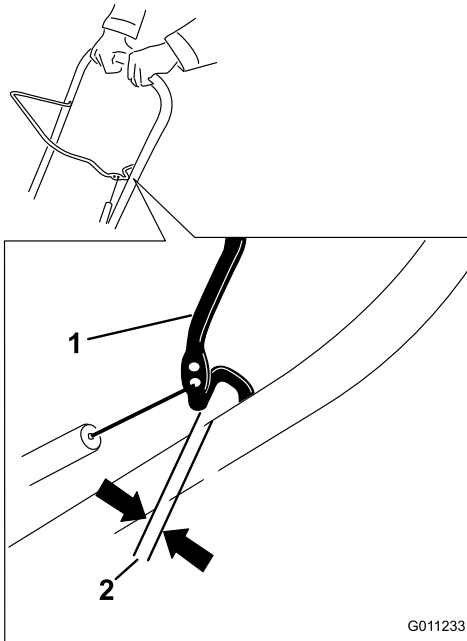

Figure 25
Move the control bar back toward the handle to remove the slack in the control cable (Figure 25).
**Note:** Ensure that a 1/16-inch to 1/8-inch (2 mm to 3 mm) gap exists between the control bar and the handle (Figure 25).